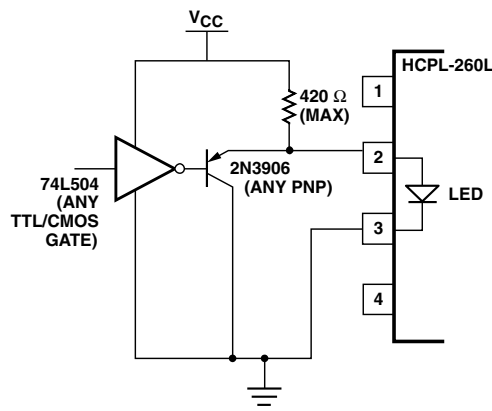

Figure 15. TTL interface circuit.
1. Use of drive circuits where current is shunted from the LED in the LED "off" state (as shown in Figures 15 and 16). This is beneficial for good  $CMR_H$ .
Figure 15 shows a circuit which can be used with any totem-pole-output TTL/LSTTL/HCMOS logic gate. The buffer PNP transistor allows the circuit to be used with logic devices which have low current-sinking capability. It also helps maintain the driving-gate power-supply current at a constant level to minimize ground shifting for other devices connected to the input-supply ground.